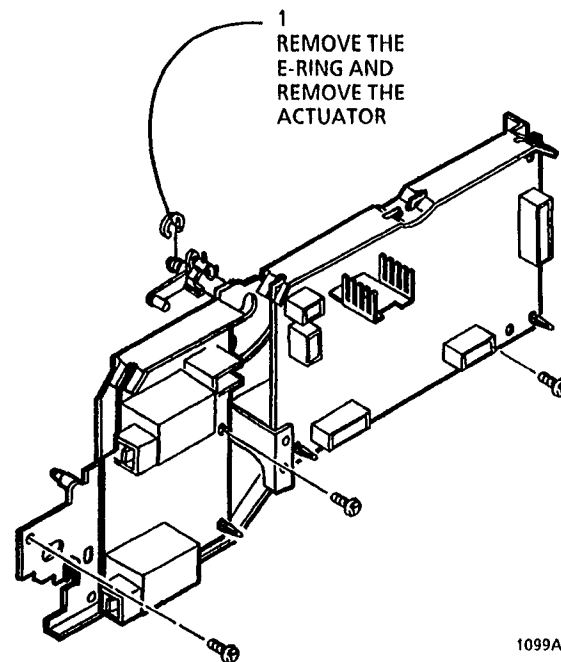

Figure 1. Removing the Registration Gate Actuator
3. (Figure 1): Remove the Registration Gate Actuator.